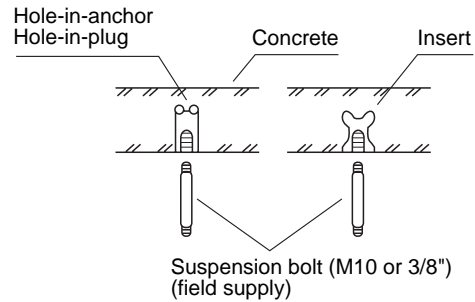

Fig. 3-56
- (2) Drill holes at the 4 points indicated on the full-scale diagram.
- (3) Depending on the ceiling type:
- a) Insert suspension bolts as shown in Fig. 3-56.